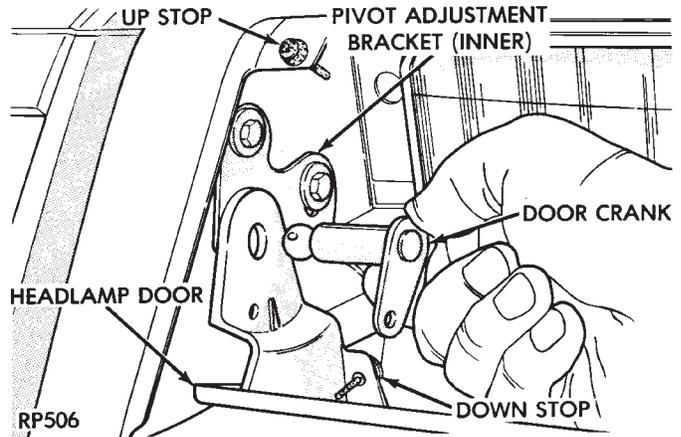

Fig. 6 Door Crank
- (5) Remove the door crank from the pivot bushing (Fig. 6).